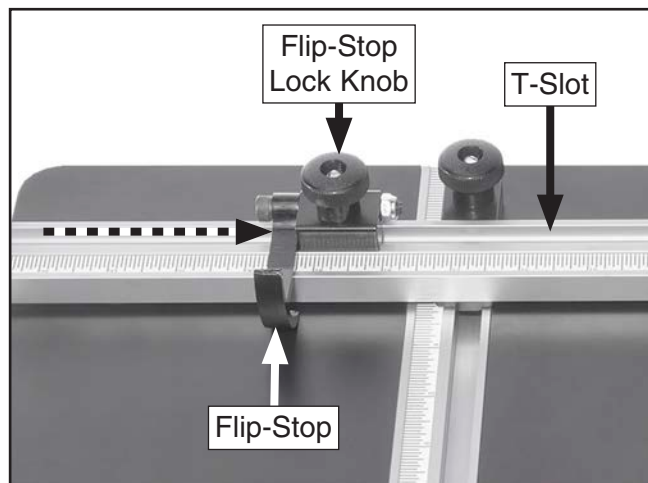

Figure 20. Flip-stop adjustment components.
1. Loosen flip-stop lock knob and insert flip-stop T-bolt into T-slot on fence (see **Figure 20**).
2. Pivot flip-stop to side of fence that workpiece will contact, then adjust flip-stop position along fence (see **Figure 20**).